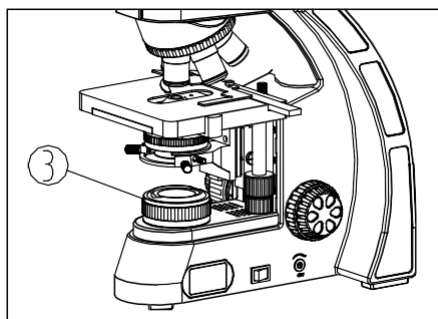

Fig. 2
3. When working, the surface of condenser will be very hot. Make sure there is enough room for the heat dissipating around the condenser③ (see Fig. 2).